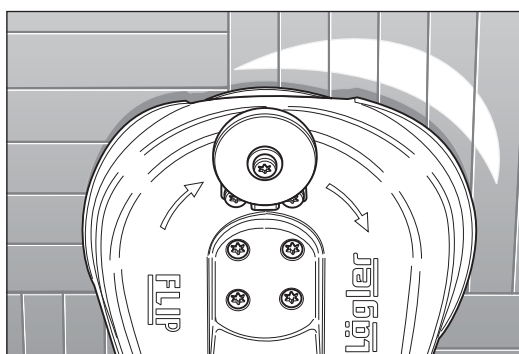
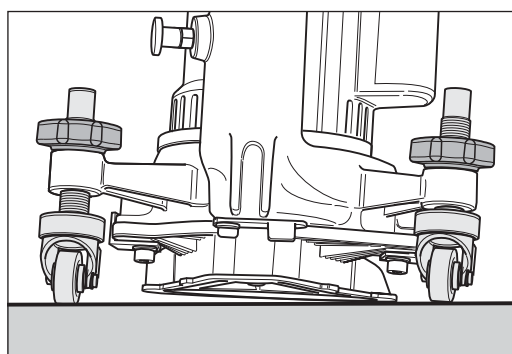
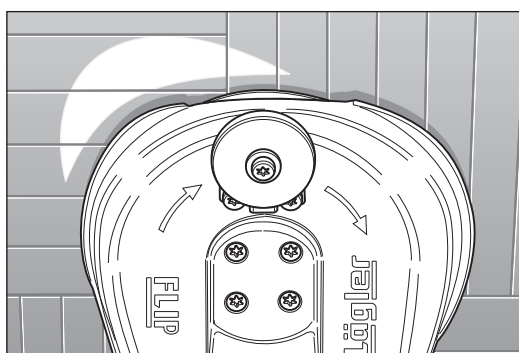
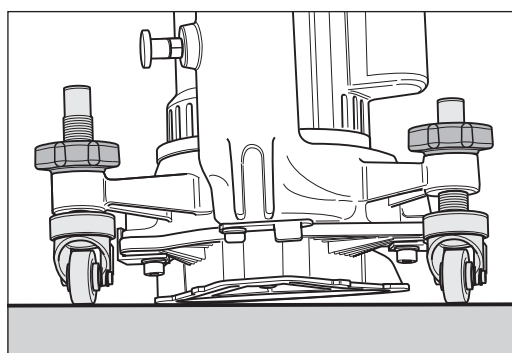

Fig. 55 Improper adjustment of the guide rollers:
Fig. 56 The sanding zone of the machine is too much to the right:
Fig. 57 Improper adjustment of the guide rollers:
Fig. 58 The sanding zone of the machine is too much to the left:
- 10 If the machine sands too much to the right (Fig. 55) or to the left (Fig. 57), the guide rollers are not adjusted to the same height (Fig. 56 and Fig. 58)!